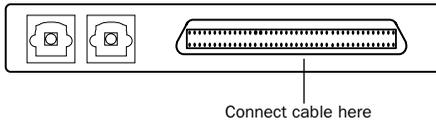

Figure 1. Digi 001 PCI Card (outside computer view) showing cable connector
- 2 Align a cable end with the connector on the Digi 001 PCI Card (see Figure 1), and insert the cable into the connector until it clicks into place.